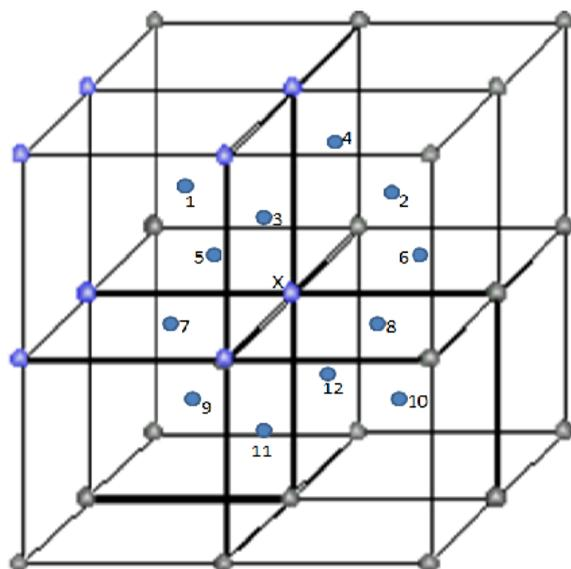

Fig 5.23
To calculate the co-ordination number, for FCC, let us consider a corner atom (X) as shown in fig 5.23. In its own plane it has 4 face centered atoms (5, 6, 7, 8) as nearest neighbours. In a plane which is lie just above this corner atom, it has 4 more face centered atoms (1, 2, 3, 4) as nearest neighbours. In a plane which is lie just below this corner atom, it has 4 more face centered atoms (9, 10, 11, 12) as nearest neighbours. Therefore, the total number of nearest atoms to any corner atom is $4+4+4=12$. Hence, the co-ordination number for FCC is 12.
The corner atoms do not touch each other. However, each corner atoms touches the face centered atoms along the diagonal of the face of the cube as shown in fig 5.24 (a). It is clear from fig 5.23 that the nearest neighbouring atoms are corner atoms A and C and the face center atom. Consider the atoms at A, C and the face center atom. These atoms lie in one straight line along the face diagonal AC of the cube.